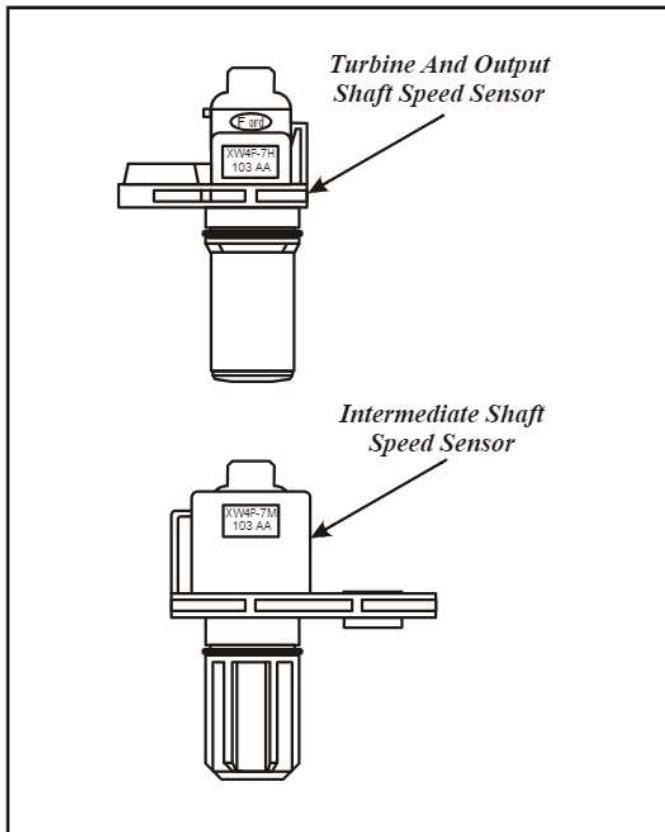

Figure 184
- Note: Use Figure 184 to identify the three speed sensor assemblies, and use the chart on Page 17 for proper Ohms readings.*